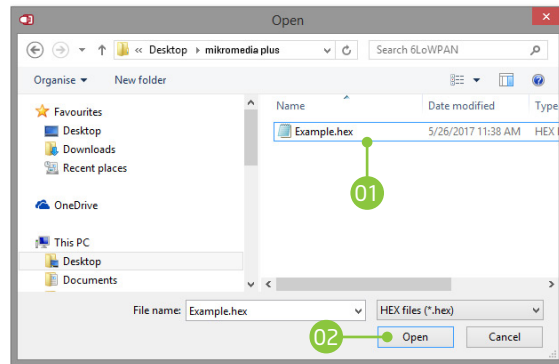

Figure 3-4: Selecting HEX
- 01 Click the **Browse for HEX** button and from a pop-up window [Figure 3.4] choose the .HEX file that will be uploaded to MCU memory.